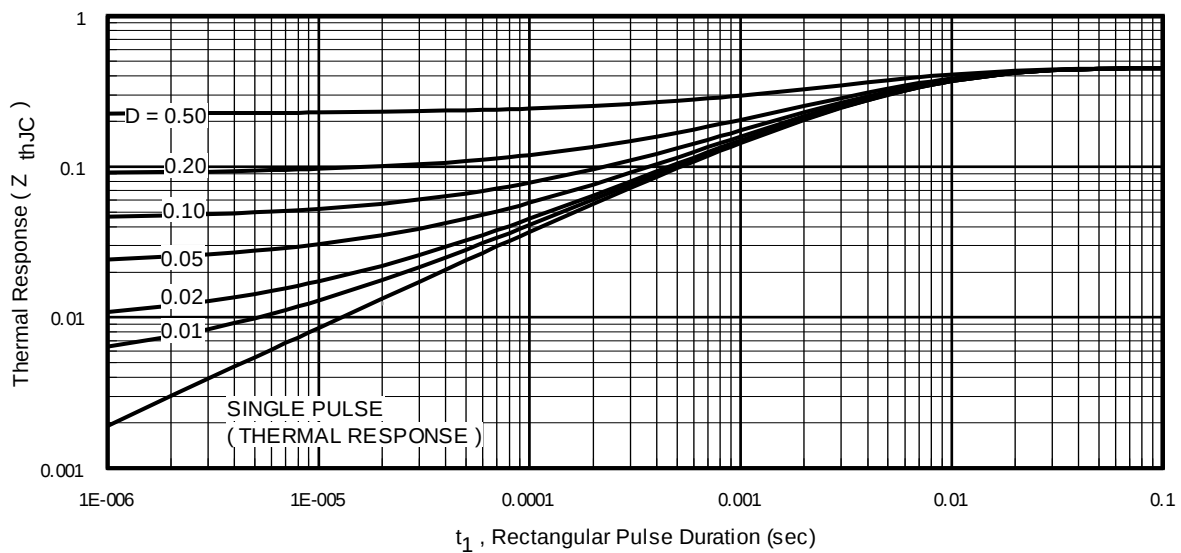
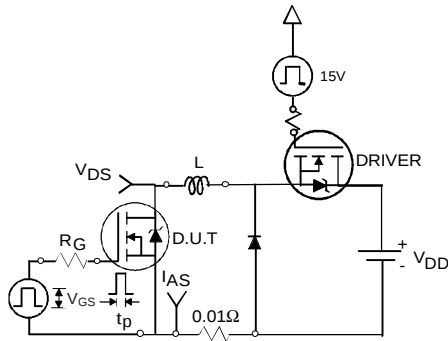

Fig 11. Maximum Effective Transient Thermal Impedance, Junction-to-Case
Fig 12a. Unclamped Inductive Test Circuit
- ① Repetitive rating; pulse width limited by max. junction temperature. (See fig. 11).
- ② Limited by T_{Jmax} , starting $T_J = 25^\circ\text{C}$, $L = 0.24\text{mH}$, $R_G = 25\Omega$, $I_{AS} = 75A$, $V_{GS} = 10V$. Part not recommended for use above this value.
- ③ $I_{SD} \leq 75A$, $di/dt \leq 220A/\mu s$, $V_{DD} \leq V_{(BR)DSS}$, $T_J \leq 175^\circ\text{C}$.
- ④ Pulse width $\leq 1.0\text{ms}$; duty cycle $\leq 2\%$.
- ⑤ $C_{oss \text{ eff.}}$ is a fixed capacitance that gives the same charging time as C_{oss} while V_{DS} is rising from 0 to 80% V_{DSS} .
- ⑥ Limited by T_{Jmax} , see Fig.12a, 12b, 15, 16 for typical repetitive avalanche performance.
- ⑦ This value determined from sample failure population. 100% tested to this value in production.
- ⑧ This is applied to D²Pak, when mounted on 1" square PCB (FR-4 or G-10 Material). For recommended footprint and soldering techniques refer to application note #AN-994.
- ⑨ Max $R_{DS(on)}$ for D²Pak and TO-262 (SMD) devices.
3. Equation below based on circuit and waveforms shown in Figures 12a, 12b.
$Z_{thJC}(D, t_{av})$ = Transient thermal resistance, see figure 11)